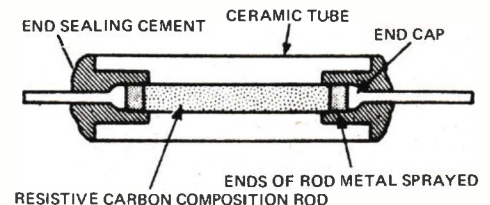

Fig. 2(b). Assembly of a ceramic tube type insulated carbon composition resistance.
**Insulated Type:** This type has the composition element made in the same manner as just described, but it is then encapsulated in either a silicon lacquer, a thermoplastic moulding or epoxied into a ceramic tube. The first two generally employ a resistance element having embedded connections, as illustrated in Fig. 1(a). The type having the element sealed in a ceramic tube generally have an element constructed as shown in Fig. 2(b). The ends of the element are sprayed with metal and an end-cap having an integral lead is force-fitted over them. This assembly is then put inside the ceramic tube and the ends sealed with an epoxy or other compound.